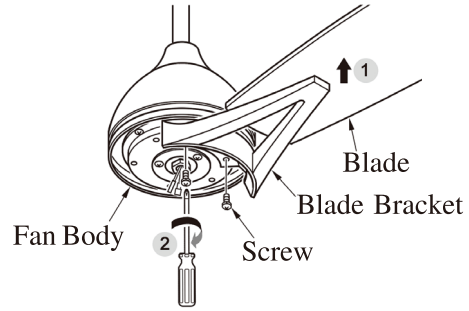

FIG.11
2. Attached each blade assembly to the fan body using the blade bracket screws. Tighten them securely.(See fig. 11)